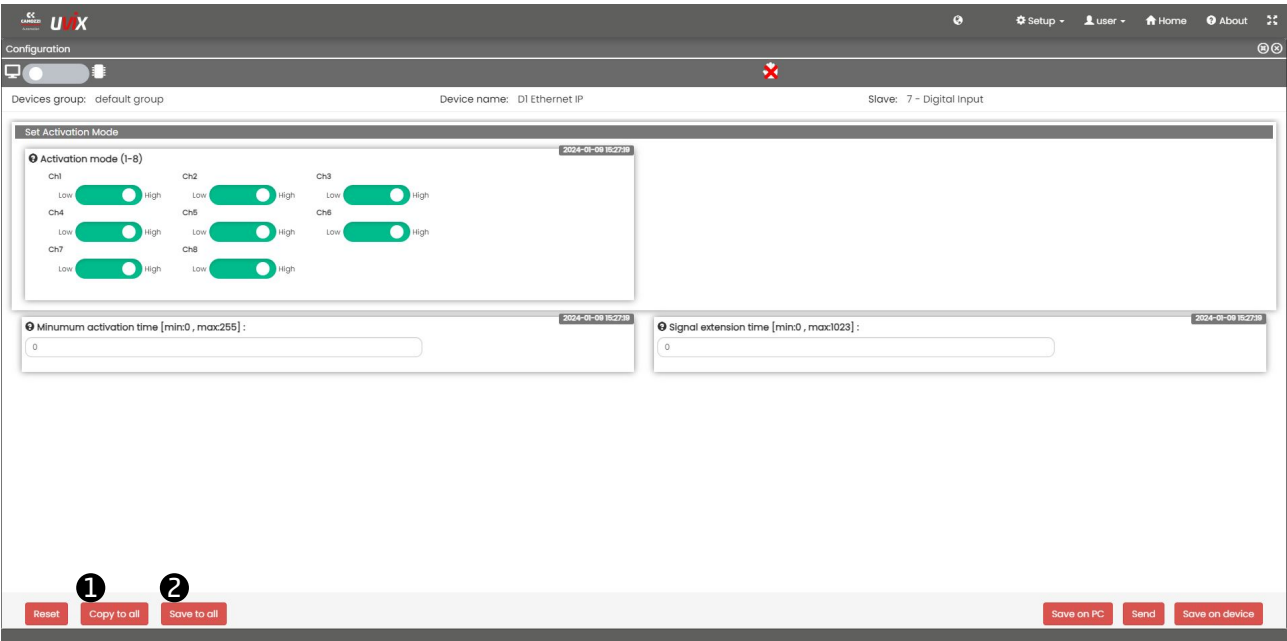

Figure 6.47: Example
2. Click on the " ⓘ Copy to all" command in the bottom-left section (Figure 6.47).
In the first column, you can select which slaves to copy the configuration to. For each slave, the ID (a unique number to identify it within the modular device), family name, subtype, and firmware version are visible. Once you have verified the information, click "Copy All" to perform the copy or "Close" to cancel the operation. Finally, press the " 2 Save to all" command in Figure 6.47 to save the new configurations permanently.